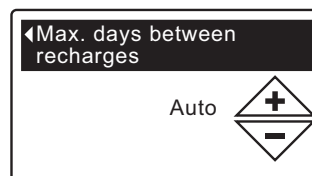

FIG. 80
**8b. Maximum days between recharges:** Press the UP (▲) or DOWN (▼) buttons to change the number of days (See Figure 80). The feature can be set from 1 to 15 days. Setting the number of days below 1 turns the feature off and defaults to automatic control of recharging.